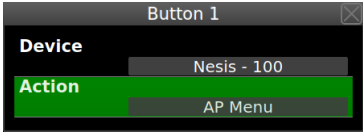

Figure 4.25: Joyu button 1 was assigned to Nesis with serial number 100 with the autopilot menu action.
2. Assign a device from the list and its action to the button pressed in the previous step. Figure 4.25 shows an example for button 1.